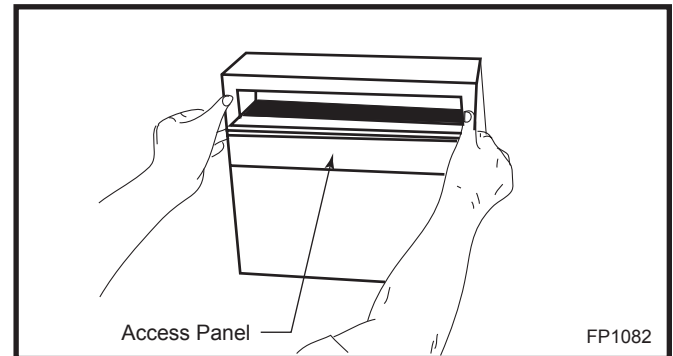

Fig. 15 Remove the access panel.
5. Carefully remove the access panel. (Fig. 15) It is extremely delicate and should be handled as little as possible.